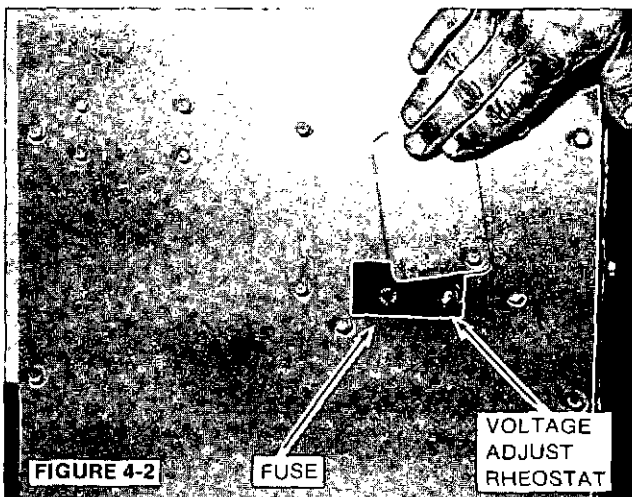

FIGURE 4-2
4. Replace the regulator fuse and adjust the voltage to the required value by means of the voltage adjust rheostat (Figure 4-2). Check all line to line and line to neutral voltages to be sure they are correct and balanced. If the voltages are not correct, shut down immediately and recheck all connections. See Section 3.
The generator output voltage is adjusted by the voltage adjust rheostat located under the panel on the side of the generator conduit box (Figure 4-2). Refer to the regulator manual for detailed information. In cases where special or remote mounted regulators are used, refer to instructions supplied by the generator set assembler and to the voltage regulator manual.